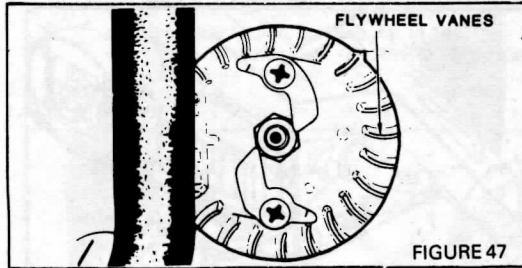

FIGURE 47
3. Clean the vanes on the flywheel and the other parts of the engine that became visible when the starter cover was removed. (Figure 47).